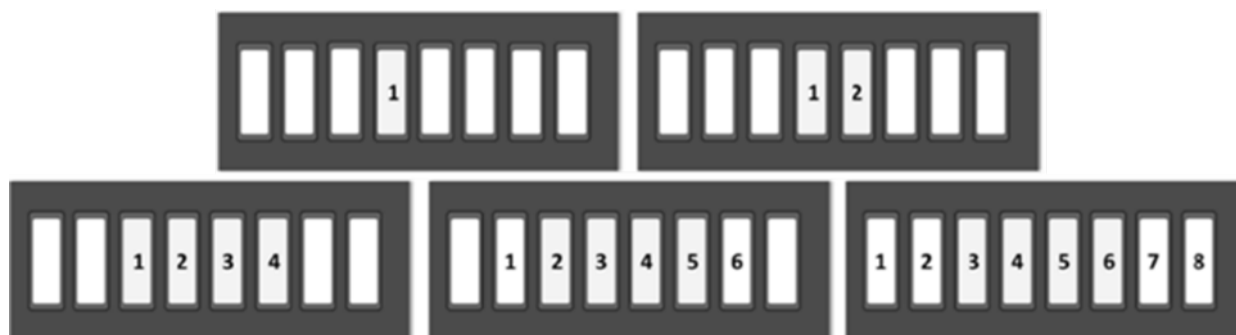

Figure 30 - Chip loading positions for 1, 2, 4, 6 and 8 CodePlex chips
3. Chips need to be loaded from the “inside out” (not “left-to-right”) as shown in Figure 30: